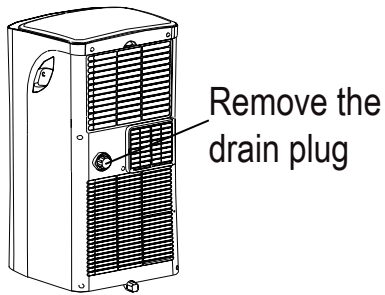

Fig.6
- During dehumidifying modes, remove the drain plug from the back of the unit, install the drain connector(5/8" universal female mender) with 3/4" hose(not.included). Place the open end of the hose directly over the drain area . Please refer to Fig.6 & 7.